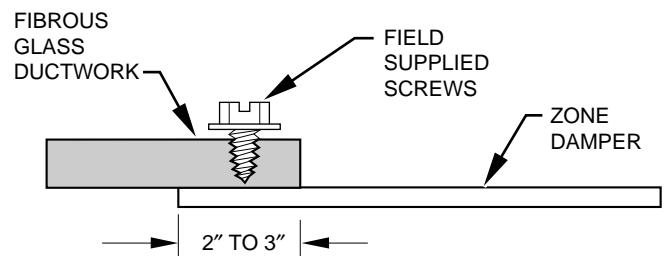

Fig. 10—Rectangular Fibrous Glass Ductwork A92480
1. Insert 1 end of zone damper into 1 end of fibrous glass ductwork approximately 2 to 3 in. (See Fig. 10.)